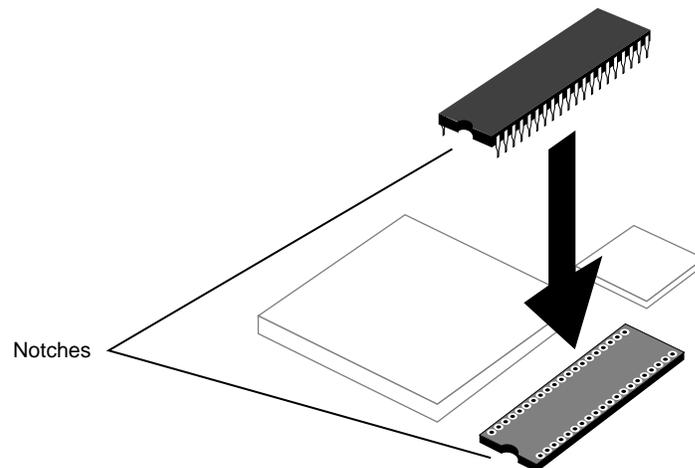

Figure 14 Lining up the PROM chip.
- Grasp the new PROM chip. Orient the PROM above the socket on the CPU board so the semi-circular notch on the PROM chip lines up with the notch in the socket, as shown in Figure 14.